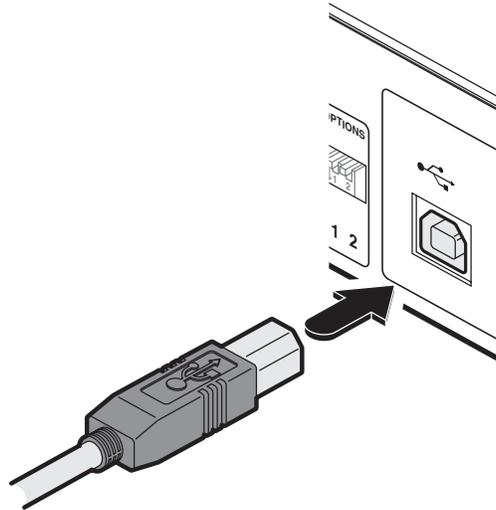

Figure 3-5. Connect the USB link cable to local transmitter unit socket.
- 1 Connect the squarer of the two connectors on a USB cable to the USB port on the Local unit rear panel. See Figure 3-5.